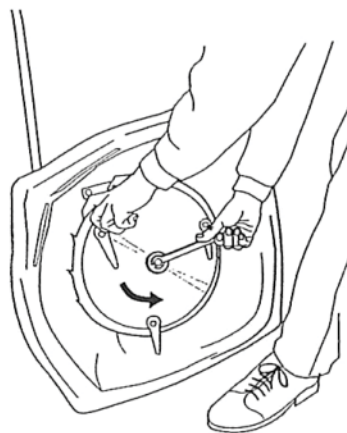

Figure 13
3. Remove the impeller retaining bolt, flat washer and cutter disc. (Fig. 13)